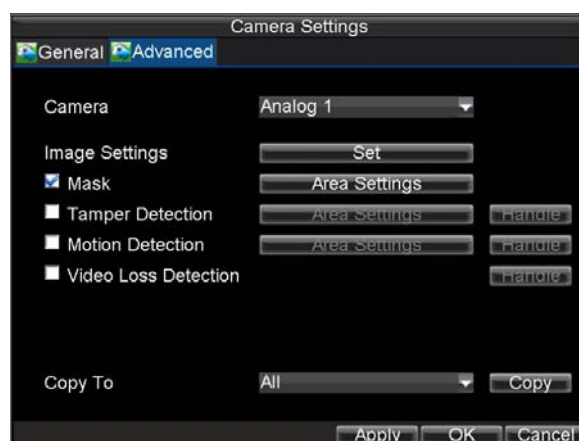

Figure 7. Advanced Camera Settings Menu
3. Select the **Advanced** tab to enter the Advanced Camera Settings menu, shown in Figure 7.